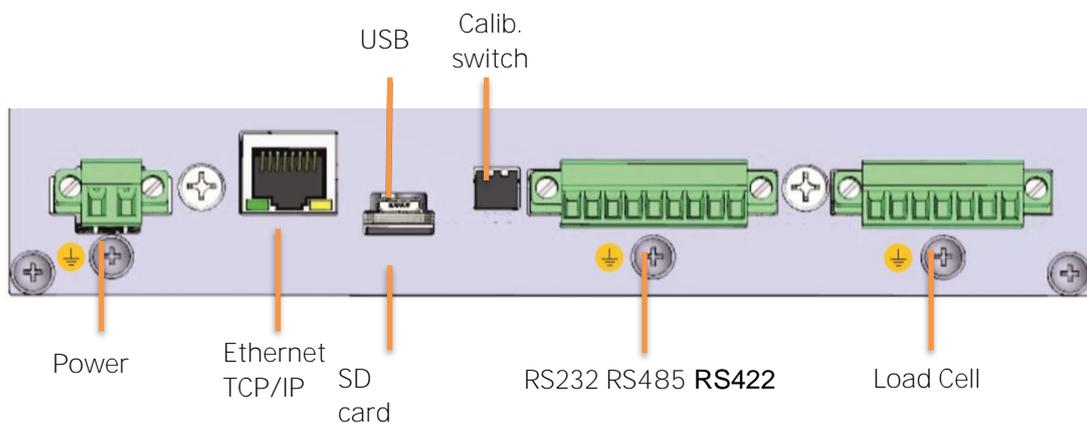

Figure 5.3 – The rear view of the instrument and terminal names.
- Shields of all cables must connect to the ground screws rear the instrument as indicated in the Figure 5.3 (recommended).